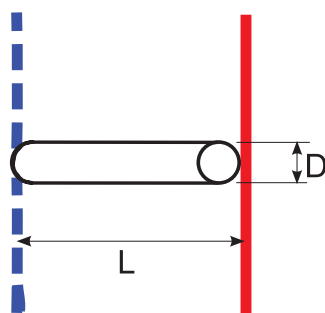

Fig. 29 Vista detallada bypass (→ [1] [ASB fig. 27 y 28])
- [1] Bypass (→ fig. 29) (→ [1] Tab. 9)